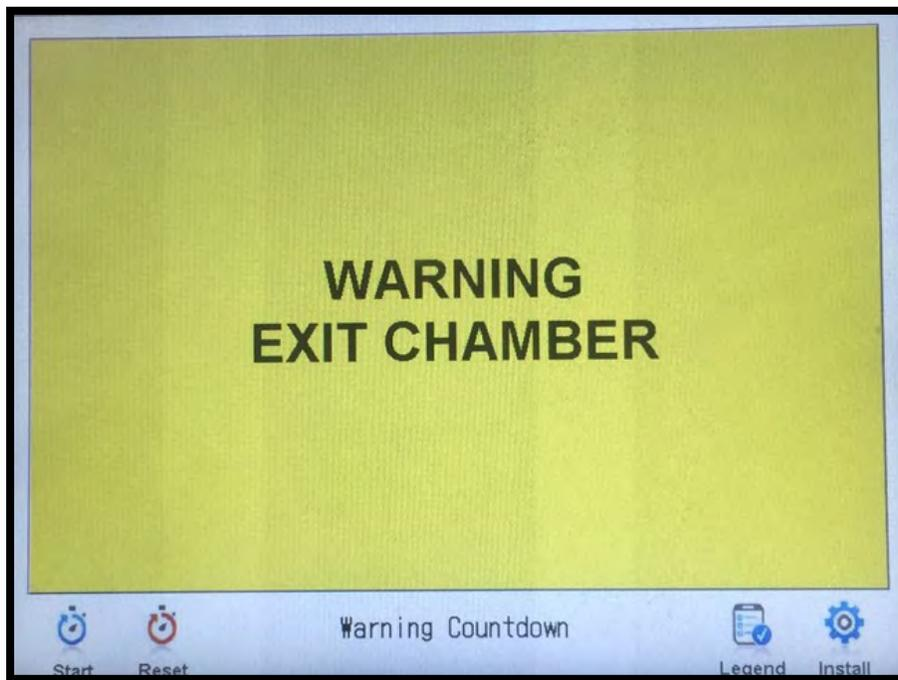

FIGURE 4
- 4.3.6 This “Warning Countdown” stage precedes all operation stages and allows for additional time to ensure all safety criteria have been met (Figure 4).